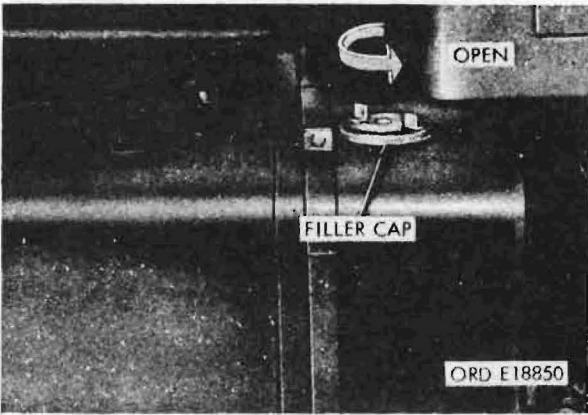

Figure 48. Multifuel engine fuel tank filler cap
- (34) Fuel tank filler cap (figs. 48 and 49). The fuel tank filler cap, located on the fuel tank, is removed to add fuel, then replaced.